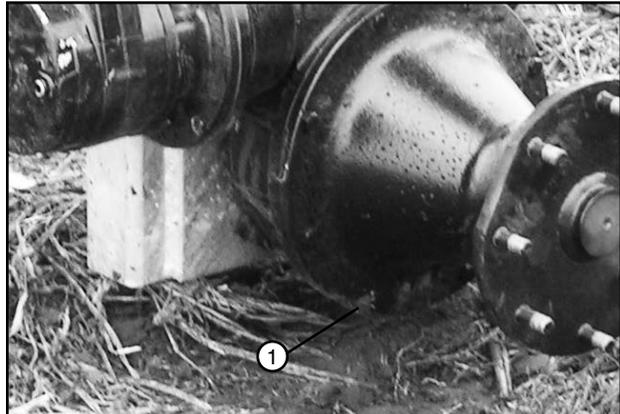

Figure 60-1 1. Wheel Gearbox Drain Plug
1. Remove the drain plug from wheel gearbox, bell housing and gear motor. Drain oil into a container. See Figures 60-1 and 60-2.